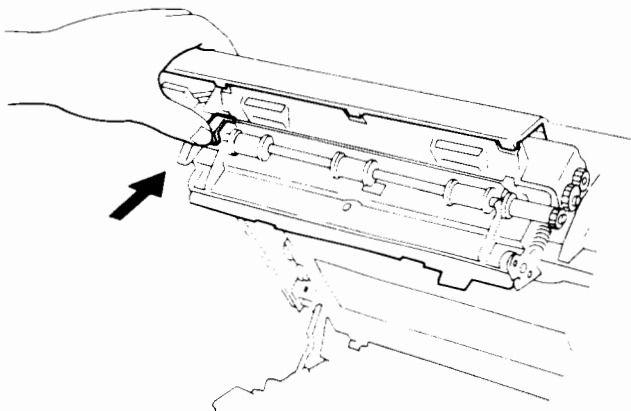

Figure 7-4 Unlocking the cleaning pad compartment
1. With the top cover open, push up the lock lever of the heat roller housing. The lever is located at the left front of the top cover (see Figure 7-4).